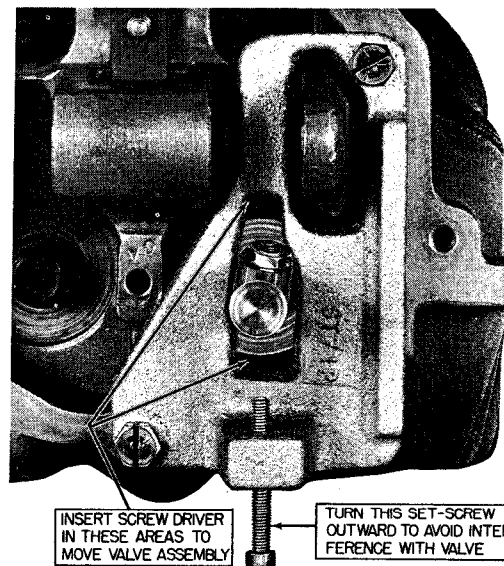
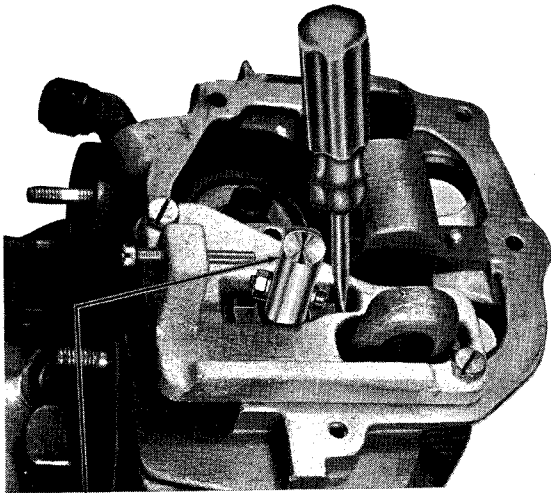

Figure 3. View Showing Area of Exhaust Valve with Components of Gage Fixture Assembled
Figure 4. View Showing Screwdriver in Position for Moving Exhaust Valve Assembly
8. Insert the blade of a screwdriver in the area between the exhaust valve spring and the pressure plate as shown in figure 3. Using the pressure plate as a pivot, press the blade of the screwdriver against the exhaust valve spring, forcing it toward the exhaust port side of the cylinder, as far as it will go, figure 4. Friction
10. Insert the blade of a screwdriver in the area between the exhaust valve spring and the pressure plate as shown in figure 3. Using the pressure plate as a pivot, press the blade of the screwdriver against the exhaust valve spring, forcing it toward the exhaust port side of the cylinder, as far as it will go, figure 4. Friction will prevent the valve from returning to its normal position.